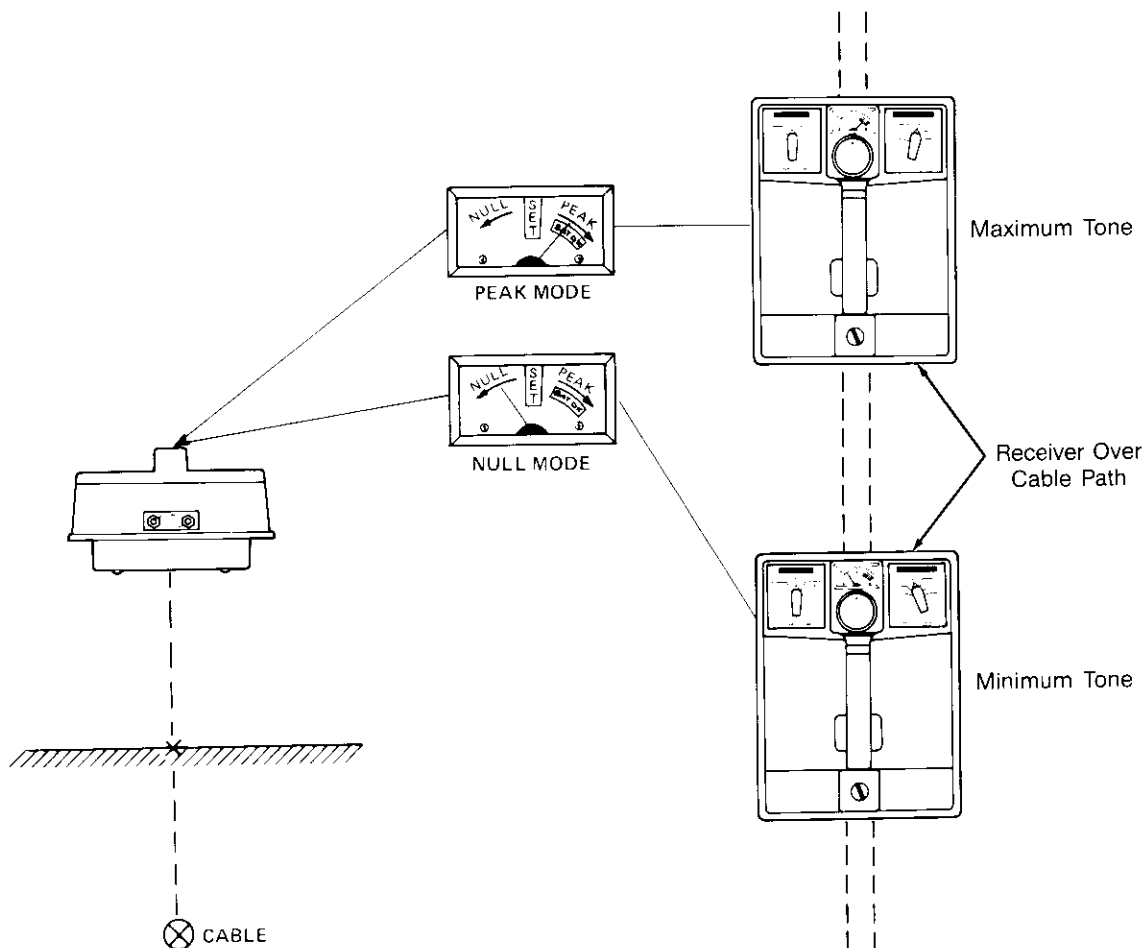

Fig. 9 — Signal Indications in PEAK and NULL Modes
- (a) **PEAK** (Fig. 9): In this mode, signal increases to a maximum as the cable is passed, and then diminishes as the receiver moves further off the cable path. The meter needle will deflect to the "Peak" zone and then return as the midpoint is passed. "Peak" is less sensitive than "Null" but allows speed in uncomplicated locates and it is more reliable when tracing changes in cable direction. Signal falls off rapidly if the handle is not in line with the cable being traced — a useful method to follow sharp bends in cable.
- (b) **NULL** (Fig. 9): In this mode, the signal picked up by the receiving coil cancels when it is directly over the cable. The meter needle deflects to the "Null" area and the speaker falls silent. As the receiver moves past the cable